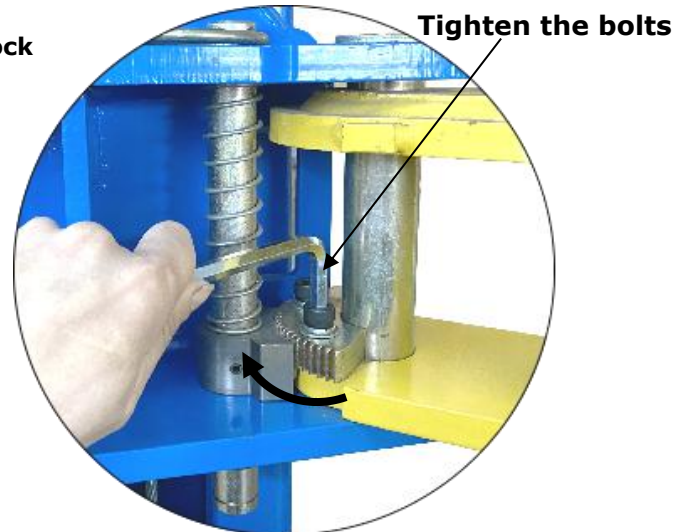

Fig. 31
4. Adjust moon gear and arm lock to make it to be meshed, then tighten the socket bolts of arm lock (**See Fig.31**).